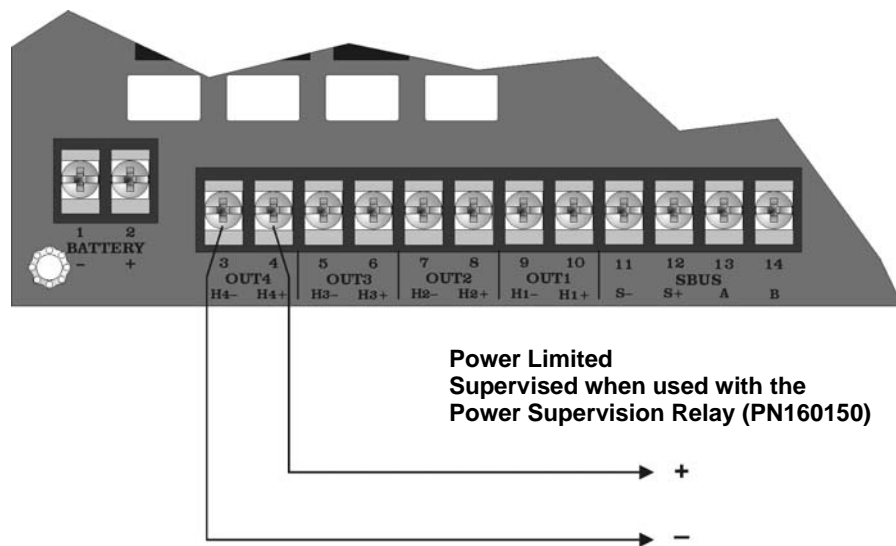

Figure 3-7 Output Circuits Used as Auxiliary Power
1. Wire the output circuit(s) that will be used for auxiliary power. See Figure 3-7 for location of the output circuits.